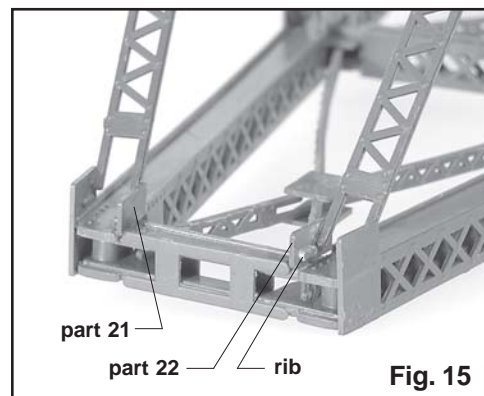

Fig. 15
18. Cement the top tower gusset plates (21) and (22) to the tower.
Lay the tower on a bent side and cement parts (21) and (22) to the bent assemblies and to the 3rd story tower X braces. Align these parts so the rib is to the inside, down, and toward the top of the tower. Part (21) is cemented on the left side, part (22) on the right. See fig. 15. Repeat on the other bent side of the tower.
19. Cement the large rivet plates part (14) at the intersection of the two X-braces in all three stories and on both sides of the tower.